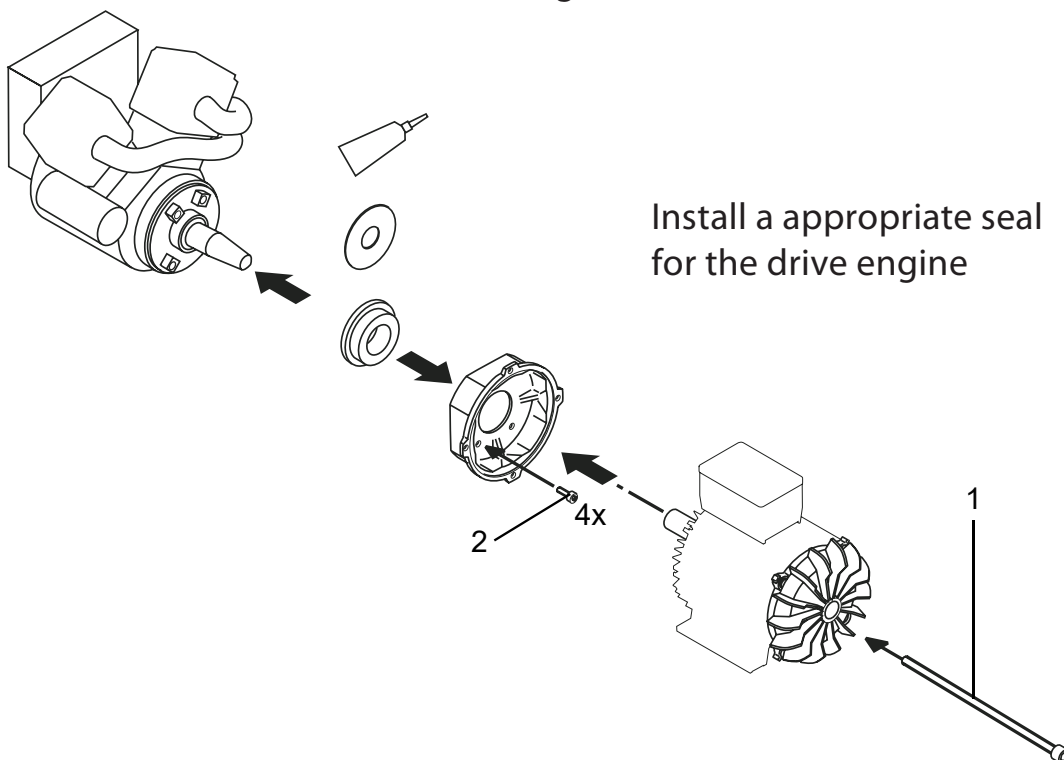

Fig. 14 Assembly of brushless single-bearing generators with tension bolts (1)
- ⇒ Fig. 14, Assembly of brushless single-bearing generators with tension bolts (1), page 50,